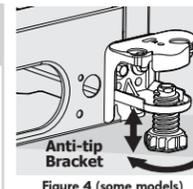

Figure 4 (some models)
4. Some models are equipped with an anti-tip bracket (Figure 4). Lower it clockwise until it contacts the floor.